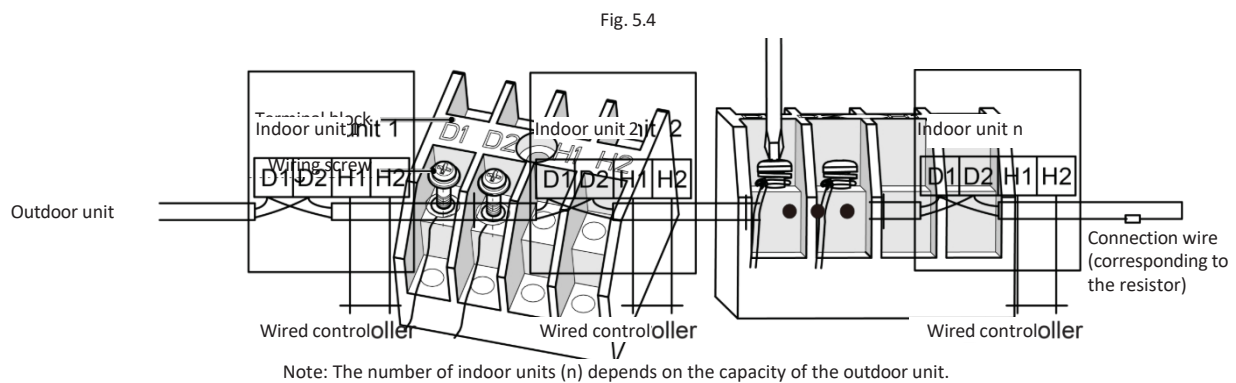

Fig. 5.5
- 5 To ensure reliable communication between the IU and the OU and between the IUs, add a suitable resistor (supplied in a package prior to shipment) to the wiring board of the last indoor unit in a series connection. The corresponding resistor must be connected in parallel between terminal screws D1 and D2, see Fig. 5.5.